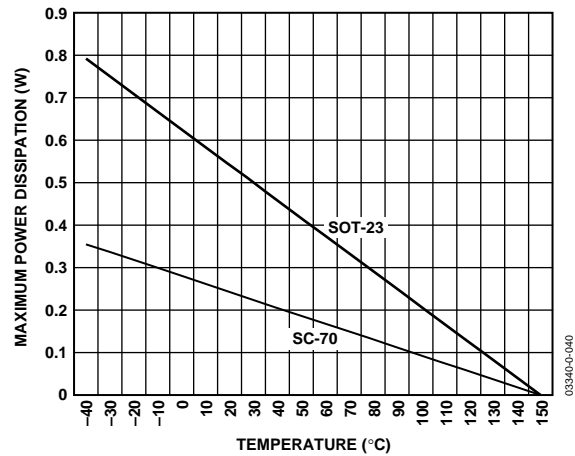

Figure 4. Maximum Power Dissipation vs. Ambient Temperature
2 SOT-23 values relate to the package being used on a 2-layer PCB and SC-70 values relate to the package being used on a 4-layer PCB. See Figure 4 for a plot of maximum power dissipation vs. ambient temperature (TA).